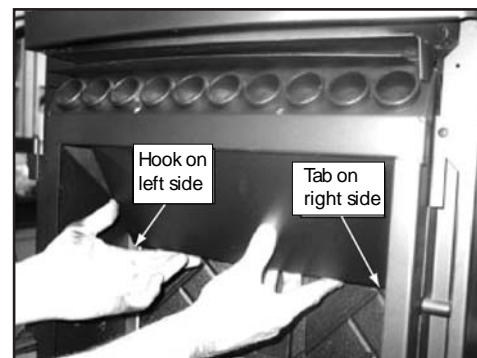

Figure 37.2
2. The top baffle has a hook on the bottom left side that rests on the top lip of the cast brick. There is a tab on the bottom right side that hooks into the side bracket. Remove the top baffle by first pulling the baffle forward until back edge drops down. Then slide baffle back until the front edge clears the shelf that it had been resting on. **Figure 37.2.**